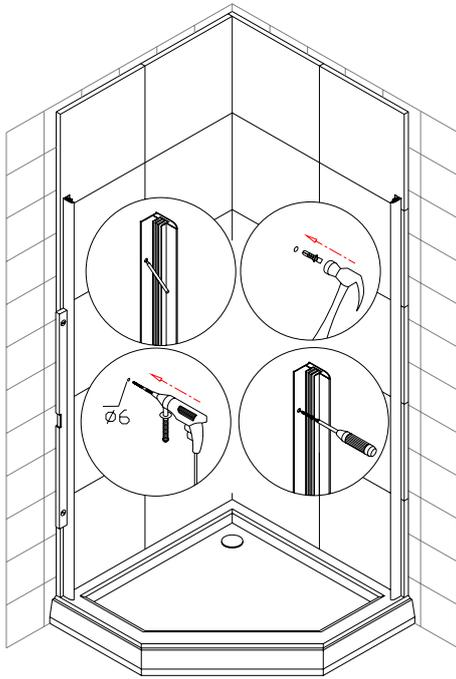

Fig 1
2. You can start installation from any side of the wall. Locate the **wall profile (2)** from the package, then place it vertically above the tray 35 $\frac{3}{4}$ " or 38 $\frac{1}{4}$ " (depending on size of your enclosure) from the corner to the external edge of the profile. Using a level adjust the wall profile upright, then use predrilled into aluminum profile holes to put on marks for drilling. Now drill the holes and insert the **wall anchors (9)** into the hole. Use ST4.2x30 screws round head self-tapping screw (12) to attach the wall profile to wall (fig 1).